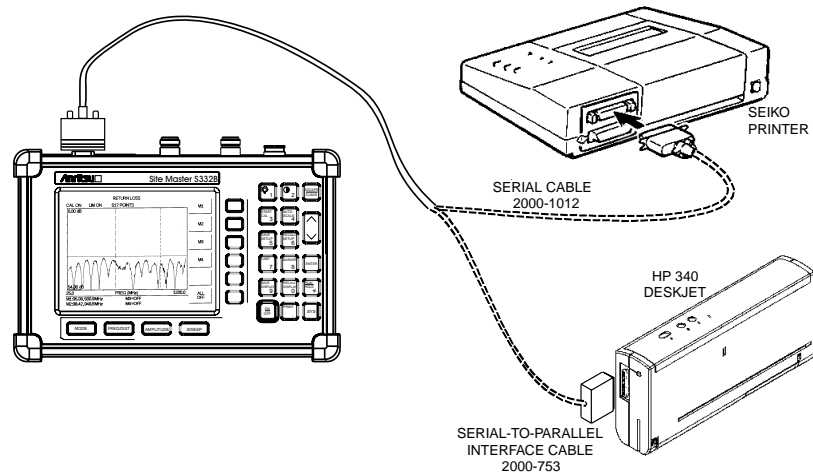

Figure 3-11. Site Master Printer Setup
Step 1. Connect the printer as shown in Figure 3-11.